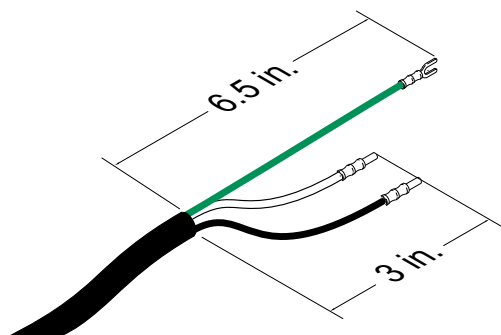

FIG. 6: Power Cord
- Add ferrules as necessary. See FIG. 6.